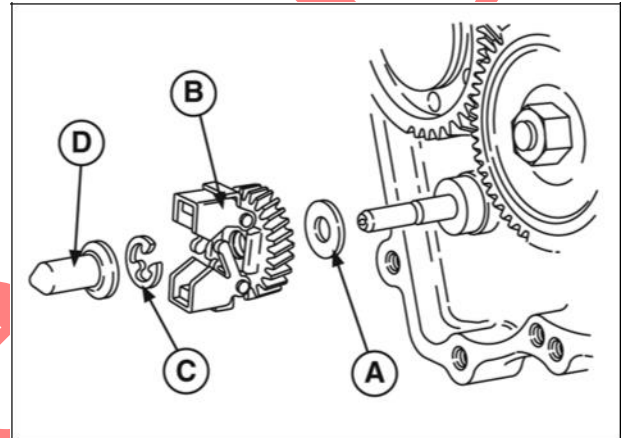

Figure 13
1. Install thrust washer (A, Figure 13) on shaft followed by the governor gear (B), E-ring (C), and governor cup (D).